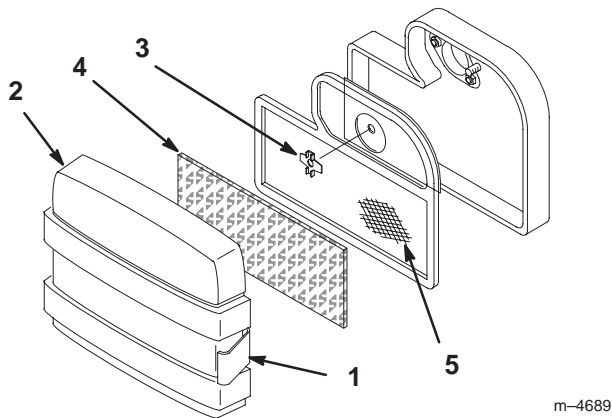

Figure 20
2. Clean around the air cleaner to prevent dirt from getting into the engine and causing damage. Pull out on retaining locks and remove the air cleaner cover (Fig. 20).
3. Unscrew nut and remove the air cleaner assembly (Fig. 20).
4. Carefully pull the foam element off the paper element (Fig. 20).
1. Carefully place the foam element onto the paper air cleaner element (Fig. 20).
2. Place the air cleaner assembly onto the air cleaner base (Fig. 20). Secure with nut.
3. Install the air cleaner cover and secure locks (Fig. 20).